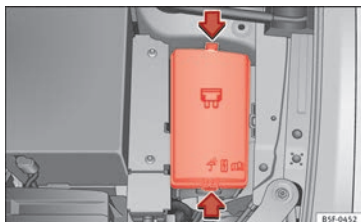

Fig. 102 In the engine compartment: fuse box cover.
- Press the locking tabs to release the fuse box cover » **Fig. 102**.